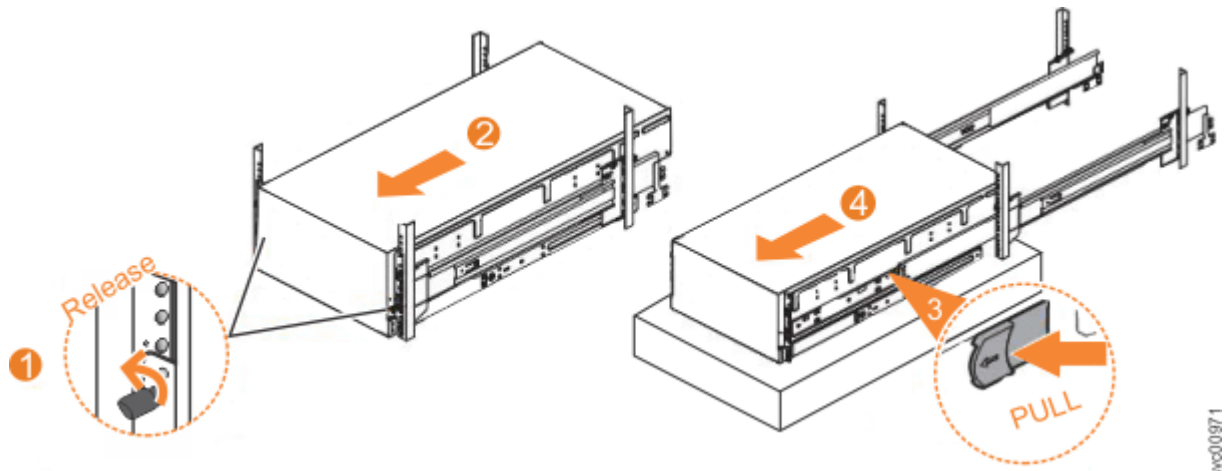

Figure 100. Removing the 5U expansion enclosure from the rack
1. Loosen the locking thumb screws **(1)** on the front of the enclosure, as shown in Figure 100 on page 165.
2. Carefully slide the enclosure forward out of the rack (2), as shown in Figure 100 on page 165.
3. Locate the left and right blue release tabs near the front of the enclosure. Pull both release tabs forward to unlock the drawer mechanism (3) in Figure 100 on page 165).
4. Slide the enclosure and inner rail member out of the rack (4) in Figure 100 on page 165).